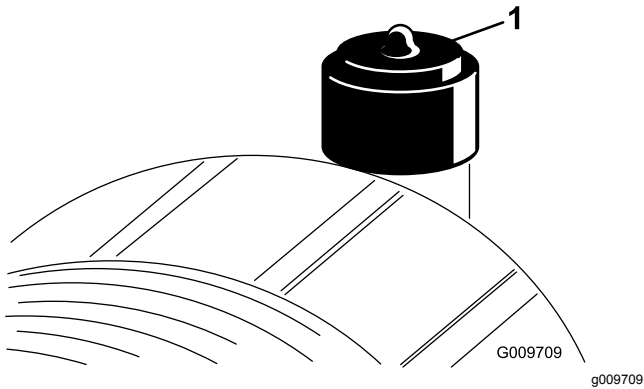

Figure 49
Service the air-cleaner filter only when the service indicator requires it (Figure 49). Changing the air filter before it is necessary only increases the chance of dirt entering the engine when you remove the filter.
2. Reset the indicator (Figure 49) if it shows red.